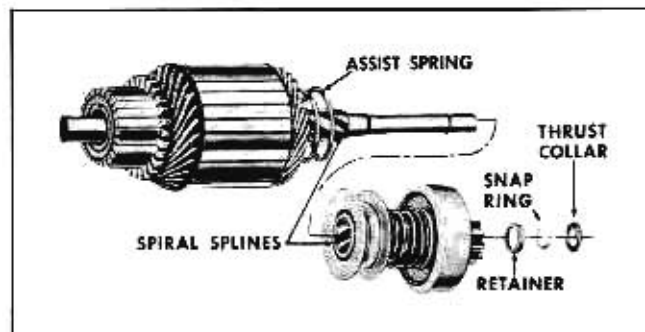

Fig. 11-32 Armature and Overrunning Clutch Assembly
a. Slide thrust collar (Fig. 11-32) off end of armature shaft.